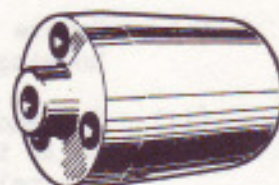

FIG. 28. TOOL USED TO PREVENT DAMAGE TO OIL SEAL WHEN ASSEMBLING IT TO THE SERVO SHAFT.
- (vi) To prevent damage to the tip of the oil seal while entering it on to the servo drive shaft (69), a tapered plug should be used. Fig. 28 shows a perspective view of a suitable plug, and Fig. 29 is a detailed drawing of the plug.